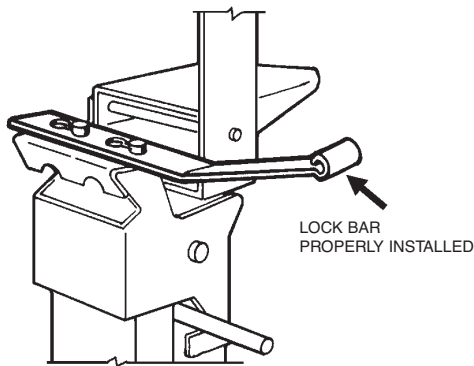

FIGURE 29
16. Remove cocking lever and insert lock bar (Part No. 14985) on left side of the cable lever, over the two shouldered projecting stud extensions, and slide bar forward into locking position. (The regulated release mechanism cannot be actuated, nor can enclosure cover be replaced until the lock bar is removed.) See Figure 29.